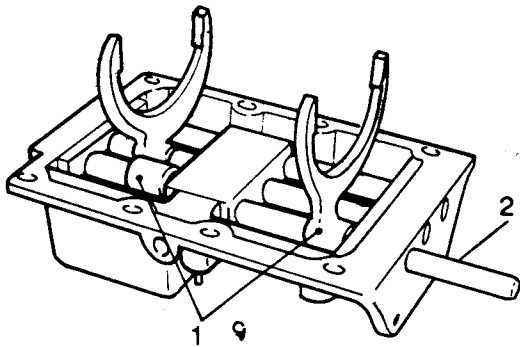

Fig H1.126
(8) Refer to Fig H1.126. Replace the two forks for the 1st and 2nd gear selector shaft (1). Replace the shaft (2) by sliding it forward.